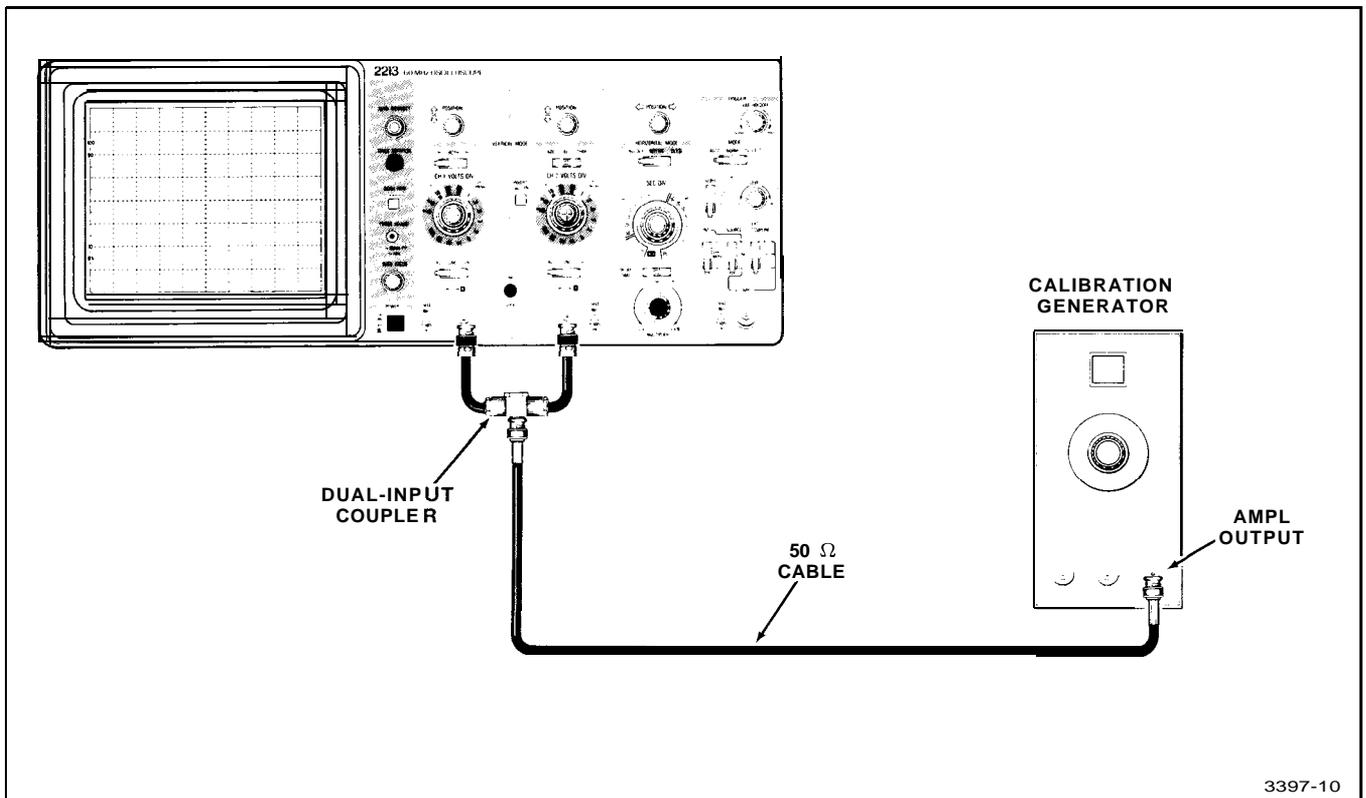

Figure 9. Initial setup for instrument familiarization procedure.
1. Connect the calibration generator standard-amplitude output to both the CH 1 and CH 2 inputs as shown in Figure 9.